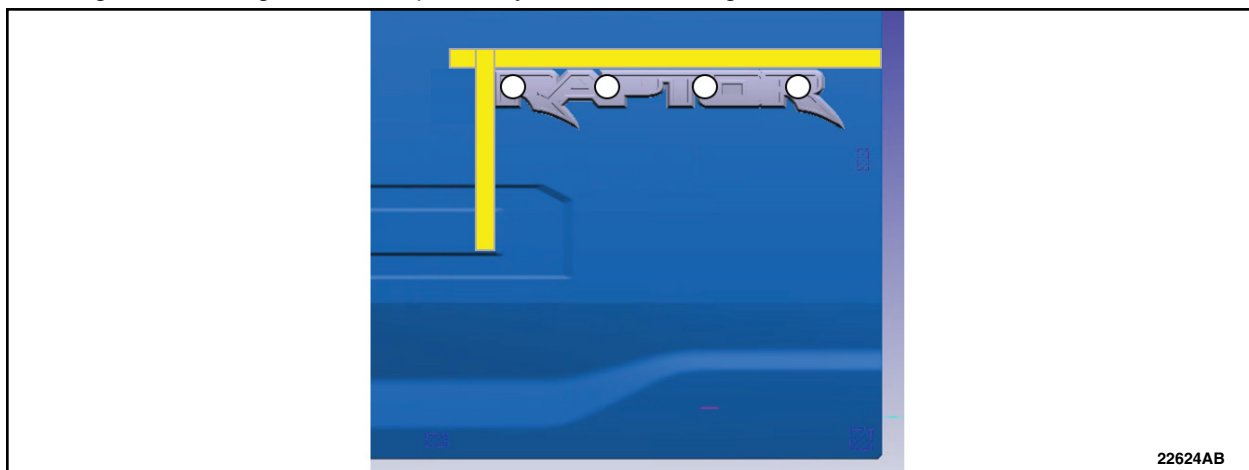

FIGURE 17
63. Remove the tape liner from the back of the badge and install to the door using the locating tape to properly align the badge. See Figure 17.
64. Using medium hand pressure, press for 3 seconds at a minimum of 4 separate locations along the length of the badge until the tape is fully adhered. See Figure 17.